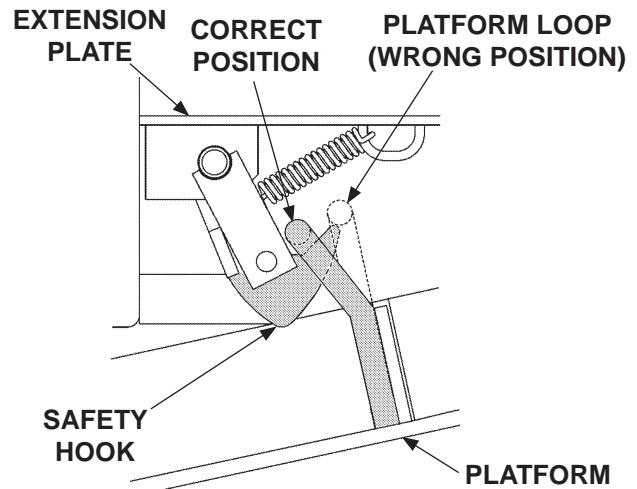

FIG. 20-1
2. When the Liftgate is stowed, see if **platform loop** is positioned above the **safety hook** as shown in **FIG. 20-1**.
1. If the safety hook is not positioned correctly (**FIG. 20-1**), lower platform to ground level (**see Operation Manual**).